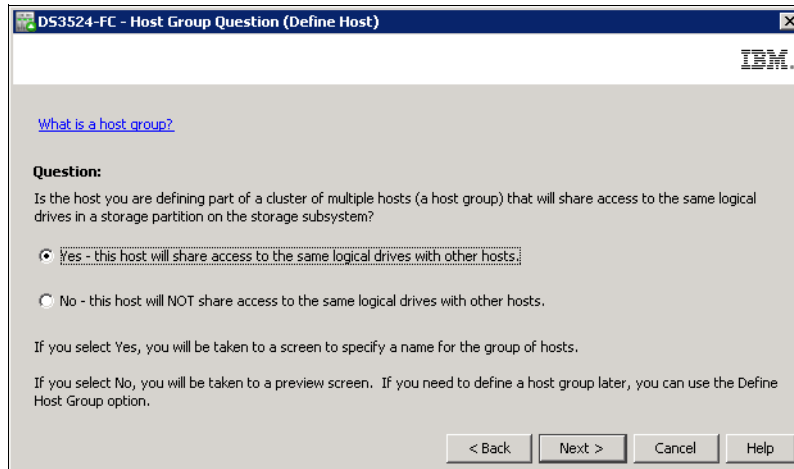

Figure 11-8 Define Host: Specify sharing (clustering)
- In the next step, you are asked whether the host is a part of a cluster (Figure 11-8). Choose **Yes** if it will be clustered, or **No**, if it will be a stand-alone server. Click **Next** to continue.
2. Specify the host type to be the same as other hosts in the target host group, and select **Yes - this host will share access to** in the window shown in Figure 11-8 on page 282,